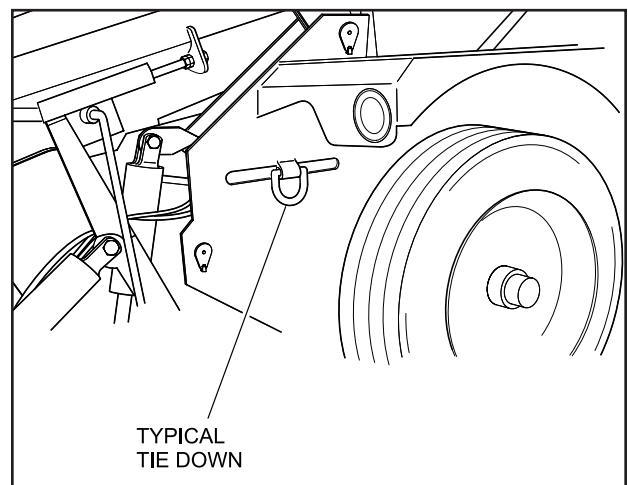

FIGURE 3-13. TYPICAL D RING FOR TIE DOWN
2. Load the loader onto the trailer and block the wheels in both directions. Use enough chains to secure the loader to make sure that it will not move while transporting. Use the factory tie downs (See Figure 3-13).